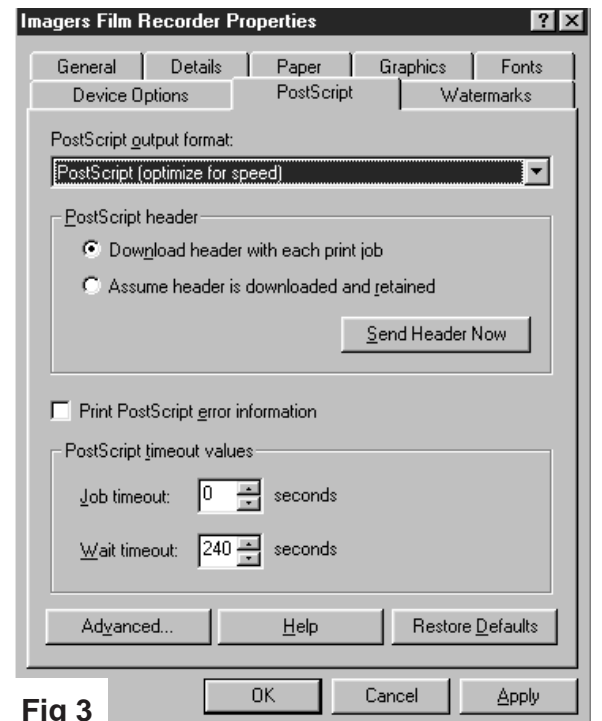

Fig 3
4. Select the PostScript tab and ensure Print PostScript error information is not checked. (Fig 3)